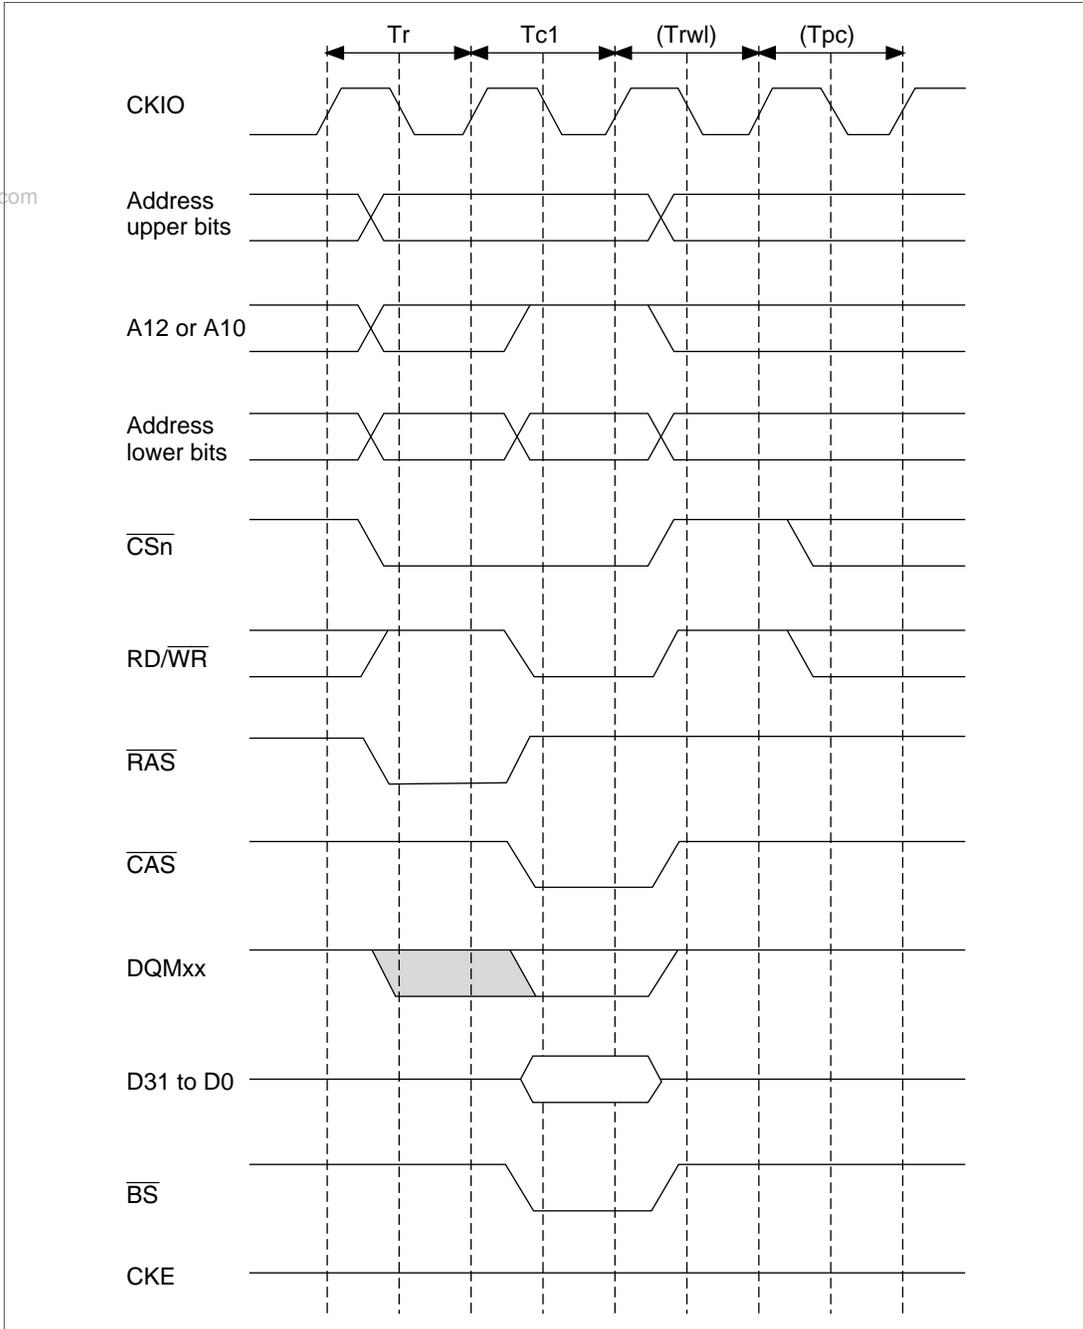

Figure 10.27 Basic Timing for Synchronous DRAM Single Write
**Single Write:** The basic timing chart for write access is shown in figure 10.27. In a single write operation, following the  $T_r$  cycle in which ACTV command output is performed, a WRITA command that performs auto-precharge is issued in the  $T_{c1}$  cycle. In the write cycle, the write data is output at the same time as the write command. For the write with auto-precharge command, precharging of the relevant bank is performed in synchronous DRAM after completion of the write command, and therefore no command can be issued for the same bank until precharging is completed. Consequently, in addition to the precharge wait cycle,  $T_{pc}$ , used in a read access, cycle  $T_{rwl}$  is also added as a wait interval until precharging is started following the write command. Issuance of a new command for the same bank is postponed during this interval. The number of  $T_{rwl}$  cycles can be specified by the TRWL bit in MCR.